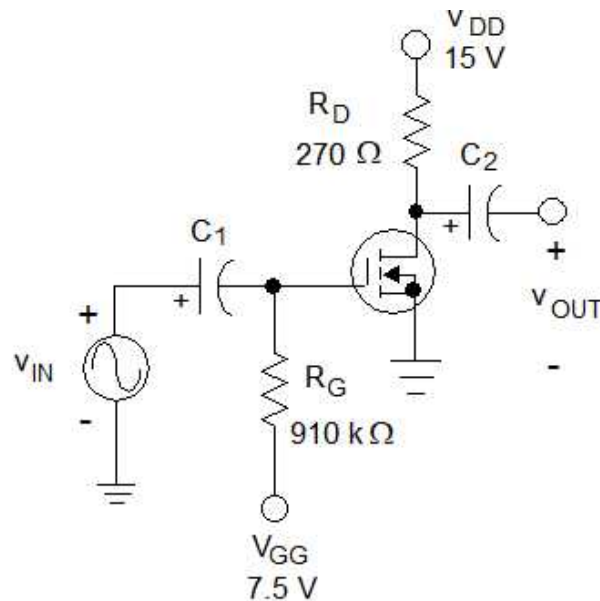

Figure 6-49.
- 6-48 Perform a DC analysis of the E-MOSFET common-source amplifier shown in Fig. 6-49. Assume that the E-MOSFET data includes $I_D = 10$ mA when $V_{GS} = 5$ V, and $V_{GS(th)} = 1.5$ V. Find V_{GS} , I_D , I_S , and V_{DS} . Also, determine V_D , V_G , and V_S .
- 6-49 Determine $I_{D(SAT)}$ and $V_{DS(OFF)}$ for the circuit given in Fig. 6-49.